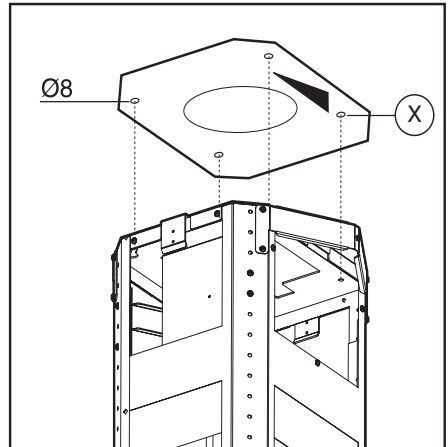

Fig.4
- Position the drilling template on the ceiling, making sure that the arrow is on the right-hand side in relation to the appliance controls, as indicated in Figure 4.